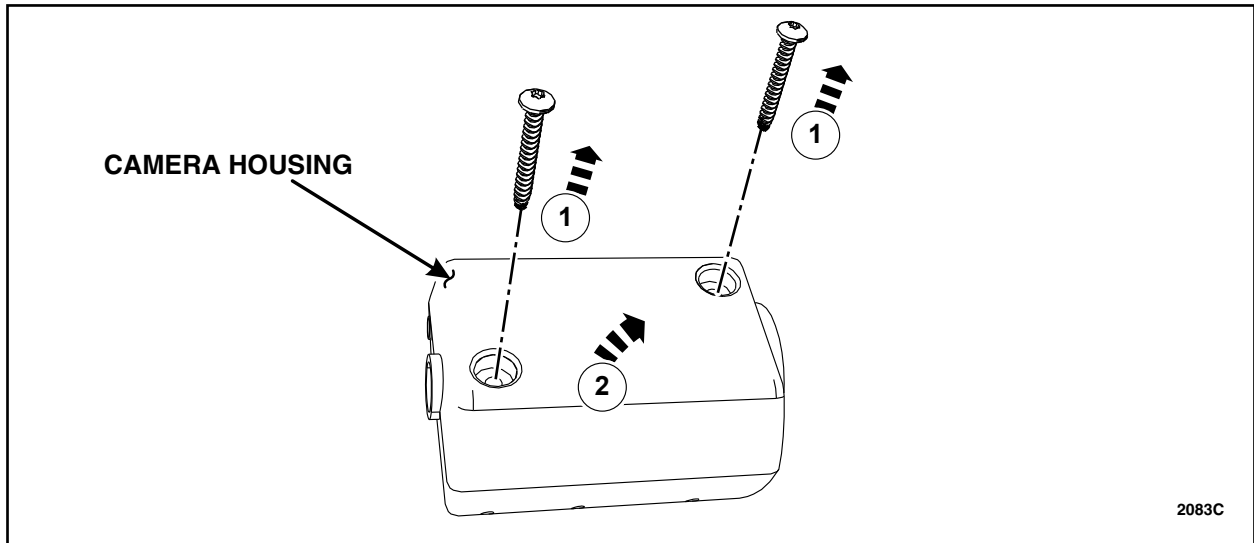

FIGURE 16
3. Remove the two (2) long screws from the back side of the camera housing and separate the housing halves. See Figure 16.
5. Attach the camera housing halves and install the two (2) long screws. See Figure 16.